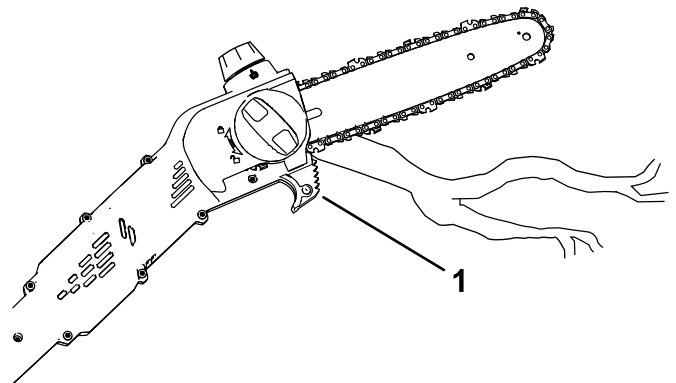

Figure 12
5. Cut with the branch near the rear of the guide bar, close to the cutting guide; press the saw chain lightly against the wood and allow the weight of the pole saw to drive the cutting (Figure 12).